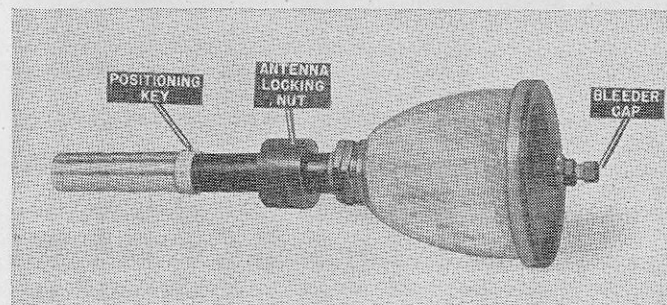

FIGURE 23.—Antenna.
(7) Throw the safety switch on the control panel to the STOP position, so that personnel will not be in danger of injury during the process of installing the antenna assembly.
b. Remove the antenna assembly, shown in figure 23, from its stowed position beneath the switch box, and install it in the center of the parabola. *Caution:* Use extreme care in handling and installing the antenna, in order to avoid bending the tubing or breaking the plastic cover.
(1) Remove the dust cap from the antenna and spinner shaft, and inspect the gasket to make certain that it is not twisted and is in good condition before installation.
(2) Insert the antenna shaft into the hollow tube projecting from the center of the spinner shaft.
(3) Rotate the antenna gently until the key shown in figure 23 falls into the corresponding slot on the antenna retaining tube. The antenna will seat properly in only one position
(4) The antenna locking nut, shown in figure 23, is tightened firmly by hand, and the air bleeder cap removed, prior to blowing out the r. f. lines. (See par. 27.)